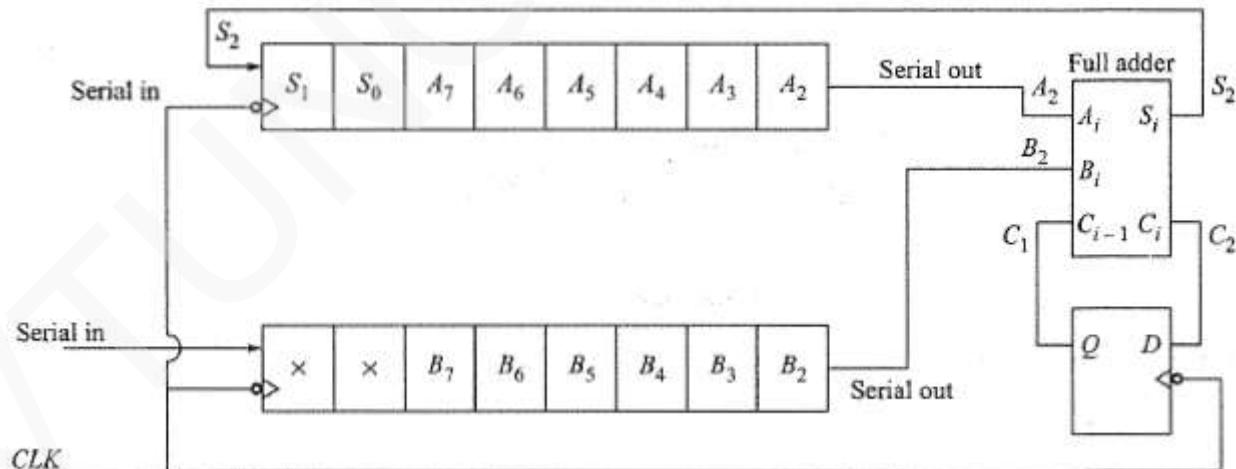

Figure 9.24: Serial Addition of two 8-bit numbers
→ uses full-adder(FA) block sequentially (Figure 9.24).